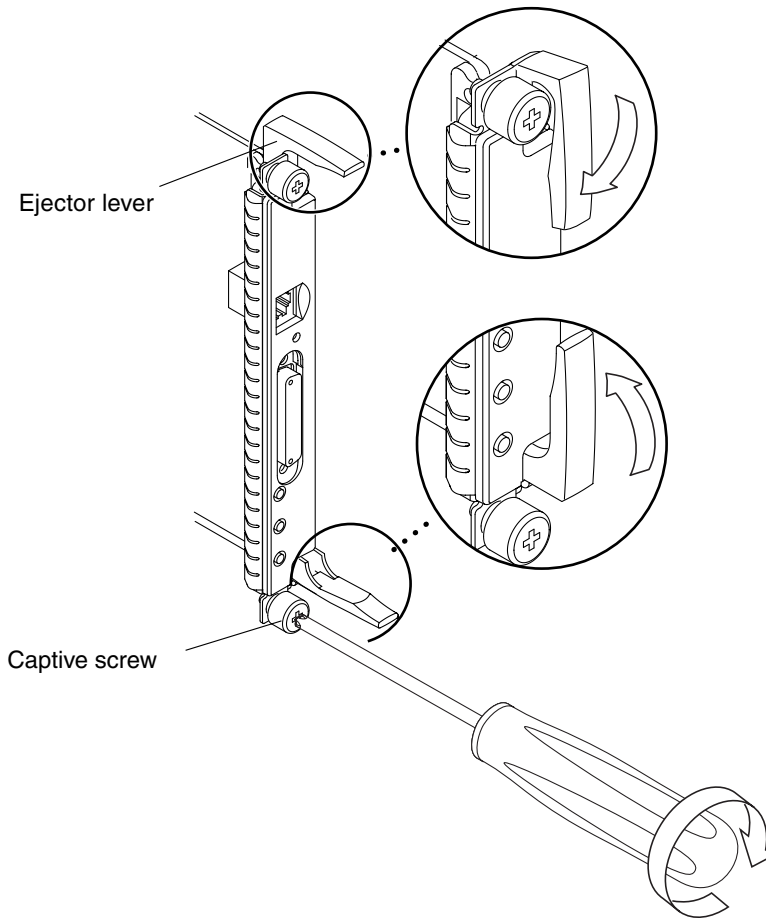

FIGURE 7-11 Tightening the Captive Screws and Locking the Ejector Levers
5. After the board is completely into the card cage, simultaneously push inward on both board ejectors (FIGURE 7-11).
6. Tighten the two captive screws using a Phillips No. 2 screwdriver (FIGURE 7-11).